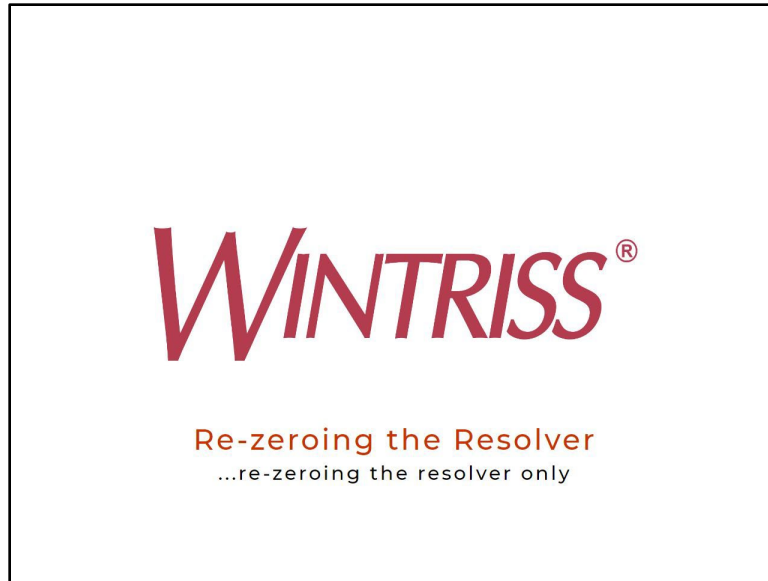

Figure 16. Re-Zeroing Resolver Confirmation
3. Cycle power to the WPC 2000. When it restarts, the confirmation screen, Figure 16, appears.